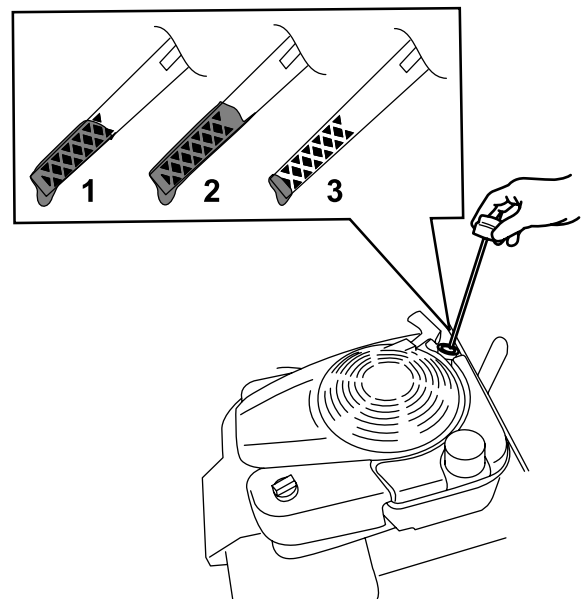

Figure 32
3. Remove the dipstick by rotating the cap counterclockwise and pulling it out (Figure 32).
- Read the oil level on the dipstick (Figure 32).